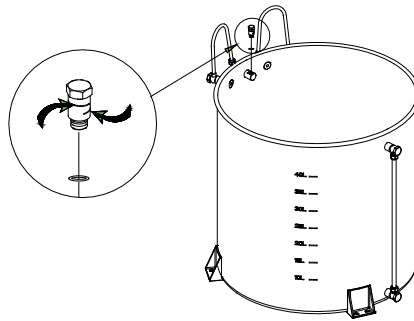

fig. 45
- remove the ball, use compressed air or pressurized water to blow from outside (fig. 45)